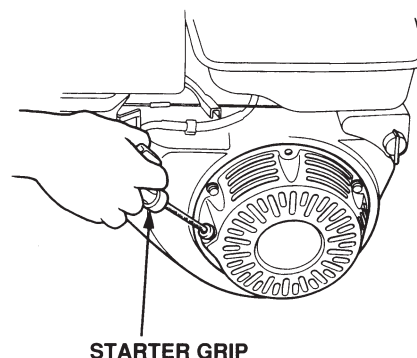

Figure 12. Starter Grip
6. Pull the starter grip (Figure 12) lightly until you feel resistance, then pull briskly. The drum should be rotating at this time.